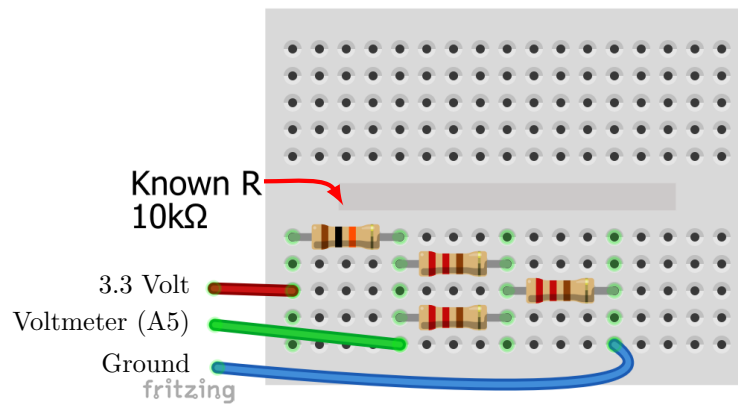

Figure 5: Two resistors in parallel, in series with a third
5. Repeat steps 1-3 with circuits that contain at least three or four resistors with both parallel and series components (Figure 5).